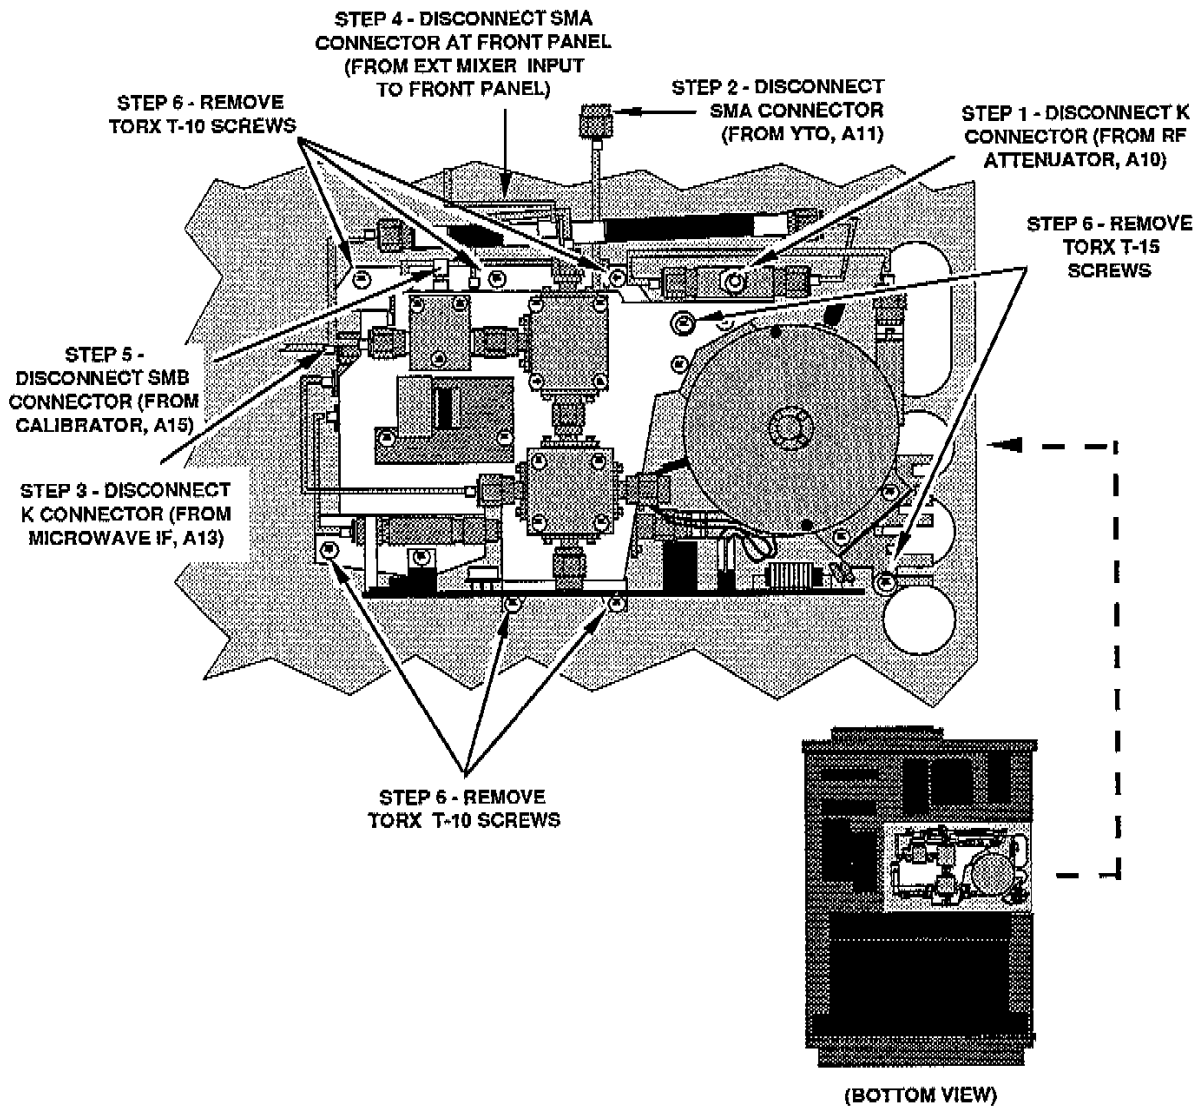

Figure 4-17. Steps to replace the MTX Assembly (A12).
6. Remove the six Torx T-10 and two T-15 screws as shown in Figure 4-17. Use a T-10 screwdriver or bit with 3" clearance to reach the screws next to the 525 MHz IF (A14).